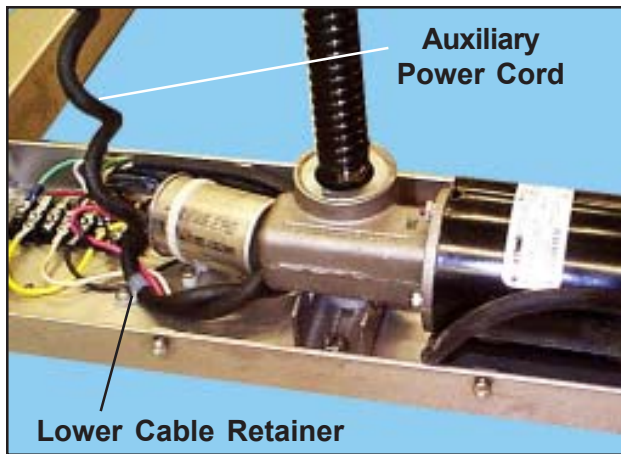

Figure 40. Lower Cable Retainer
8. With a Phillips screwdriver, remove the lower cable retainer and free the auxiliary power cord (Figure 40).
6. Mount the lower cable retainer into the tray (Figure 40).